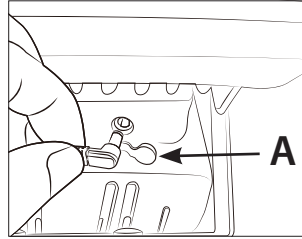

FIG. 3
1. Remove the waterproof plug (A) found in the AC Adapter socket. (Fig 3)
3. If removing the adapter, the waterproof plug (A) must be put back immediately, otherwise dust, water etc will enter, and may become a cause for malfunction.